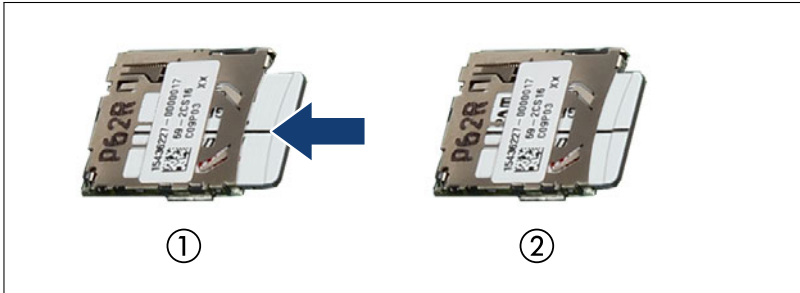

Figure 233: Installing the microSD card
- ▶ With the label facing up, insert the microSD card into the microSD slot on the controller until it locks in place (see Figure 233).